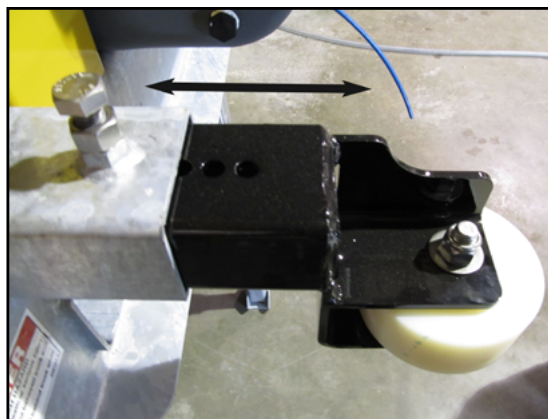

Figure 2 - Adjust Roller Sidebars
- b. Adjust roller sidebars as shown in Figure 2. Align bolt with sidebar hole.